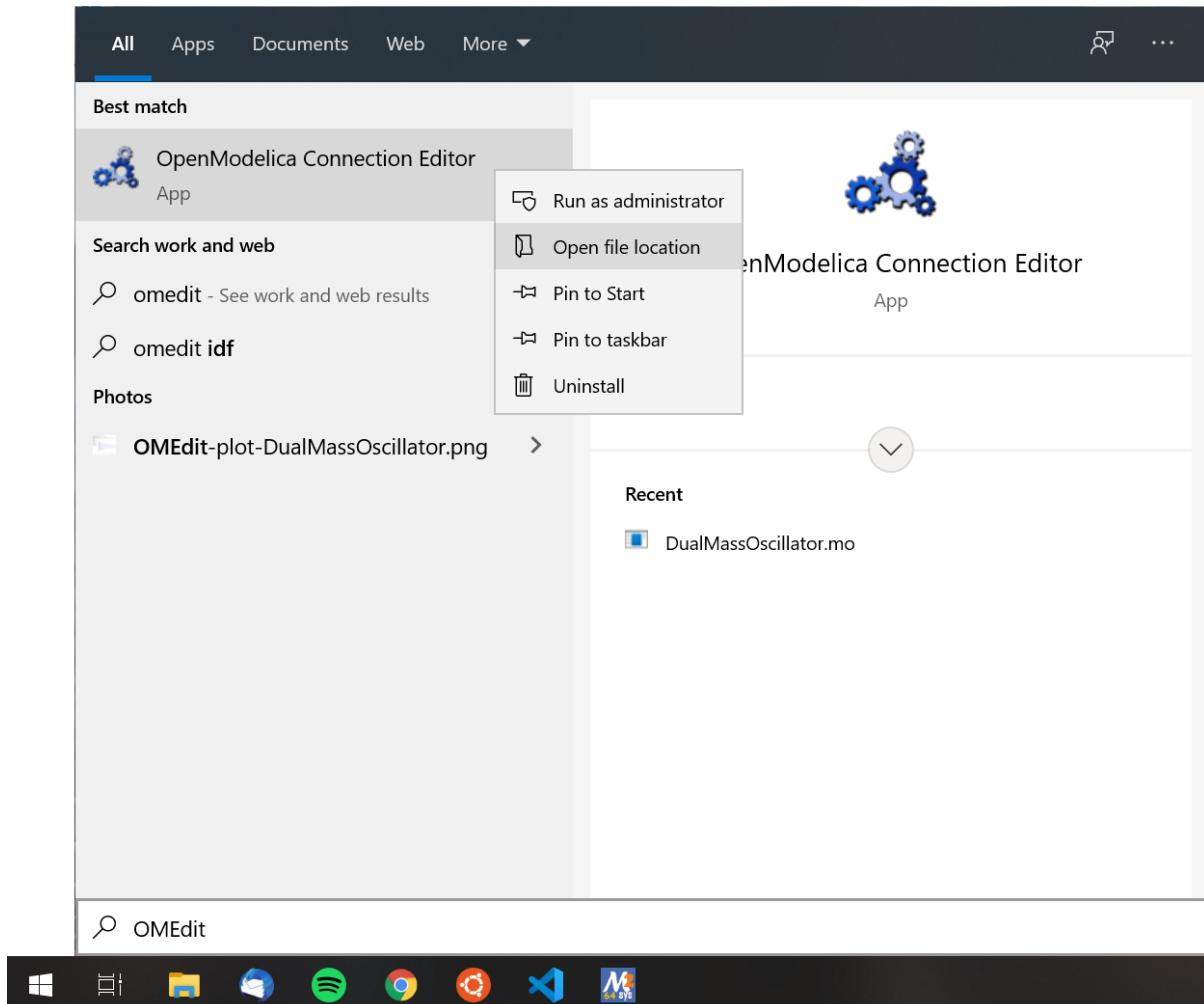

Figure 3.24: Open file location of OpenModelica Connection Editor
1. Press Windows-Key and type *OpenModelica Connection Editor* and right-click on the app and *Open file location*, Figure 3.24.